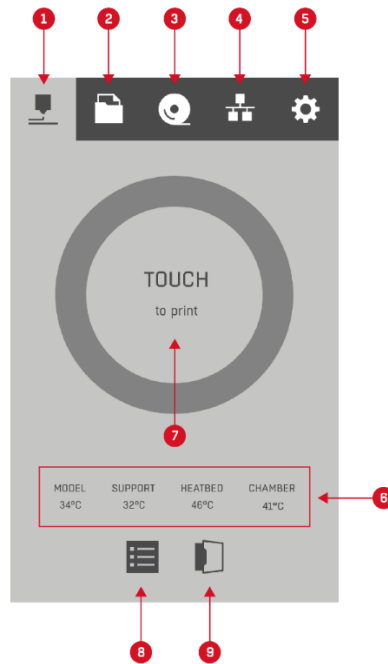

Fig. 28 Printer's main menu in idle state
Then, the display shows the printer's main idle state menu (Fig. 28).
1. **Main screen button** – after switching to other tabs, select this button to return to the main screen of the device (Fig. 28).